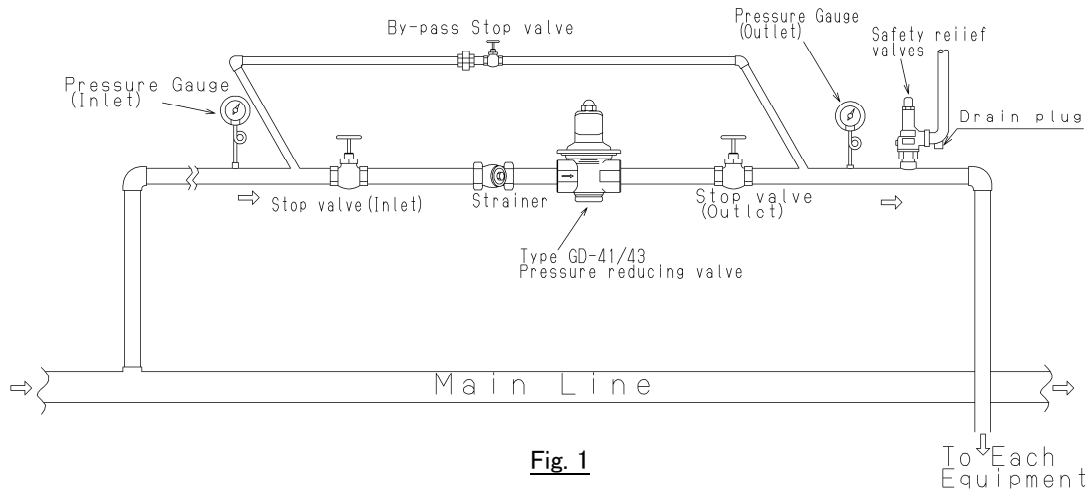
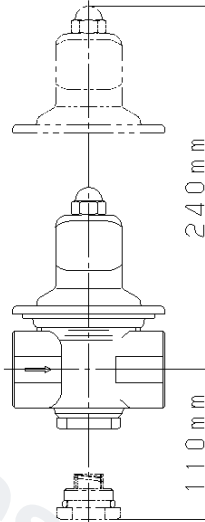

Fig. 1
Fig. 2
- (1) Do not disassemble the pressure reducing valve unless it is necessary.
- (2) Before connecting the pressure reducing valve to the piping, remove foreign materials from the piping.
- (3) Be sure to install a strainer at the inlet side of the pressure reducing valve. (Refer to Fig.1)
- (4) Installing a safety valve at the outlet side of the pressure reducing valve to protect the equipment.
- (5) Be sure to attach a pressure gauge to the inlet and the outlet of the pressure reducing valve.
- (6) When installing a quick opening/closing device for example a solenoid valve, the distance between the pressure reducing valve must be at least 3 m.
- (7) When two stage pressure reduction is employed, the distance between the two pressure reducing valves must be 3 m or more.
- (8) Before installing, verify the location of the inlet and the outlet. The arrow on the pressure reducing valve shows the direction of fluid. Observe that the arrow coincides with direction of fluid.
- (9) Piping to the pressure reducing valve must be so connected that excessive load, deflection and vibrations will not be applied to the valve.
- (10) Secure the necessary maintenance space at the installation site of the pressure reducing valve.
- ✘ Refer to Fig. 2 for dimensions of the maintenance space. If the space is smaller than these values, the valve cannot be disassembled for maintenance.
- (11) The set pressure of the safety valve must be higher than that of the pressure reducing valve.
- (12) Do not freeze the pressure reducing valve.
- (13) Do not allow pipe adhesive materials to leak into the pressure reducing valve.
- (14) Consider usage condition (usage frequency or durability) when selection.
- (15) If components having negative effect on inner parts is included in fluid and environment, deterioration of rubber parts is accelerated and causes outside leakage and functional disorder.
- (16) Horizontal or vertical installation is possible.
- (17) When using a product with a pressure gauge outdoors, provide a canopy or other protection to prevent rainwater from directly hitting the pressure gauge.